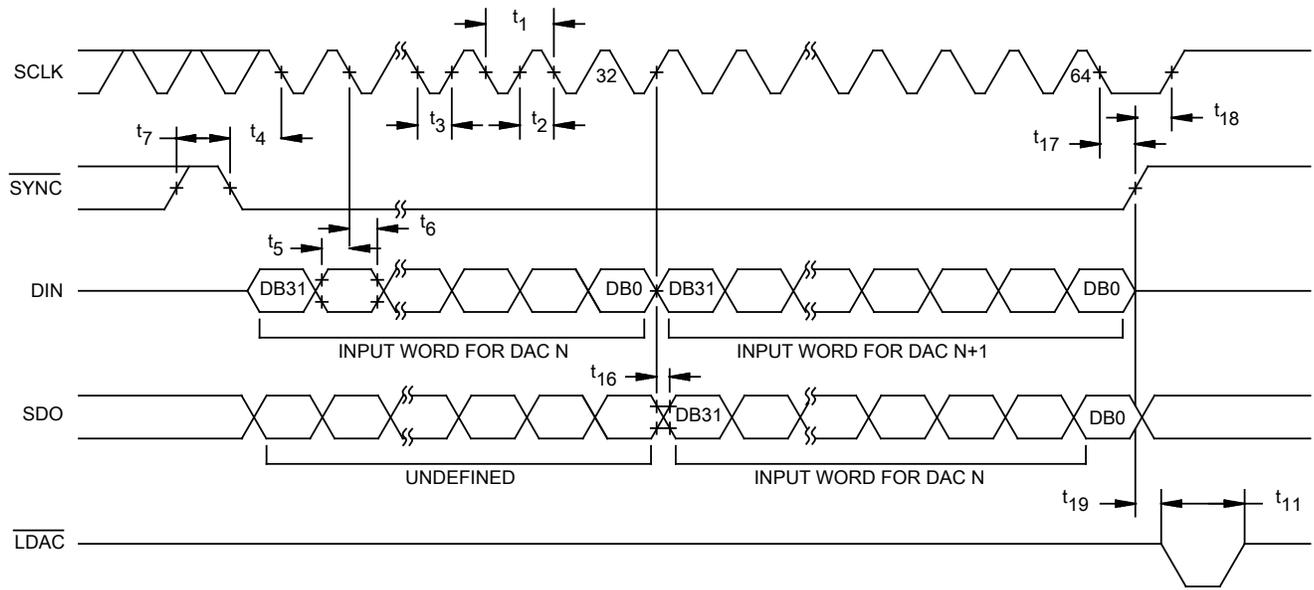

FIGURE 6. Daisy-chain timing diagram.
- 9/ All input signals are specified with  $t_r = t_f = 1\text{ ns/V}$  (10% to 90% of  $V_{DD}$ ) and timed from a voltage level of  $(V_{IL} + V_{IH})/2$ . See FIGURE 5 and FIGURE 6.  $V_{DD} = 2.7\text{ V to }5.5\text{ V}$ . All specifications  $T_{MIN}$  to  $T_{MAX}$ , unless otherwise noted.